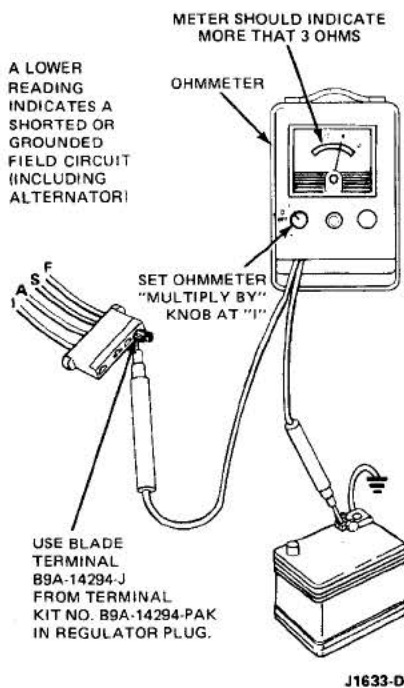

FIG. 2 Field Circuit Test
1. To determine if the jumping procedure is safe, the field circuit should be checked with the regulator wiring plug disconnected and an ohmmeter connected from the F terminal of the regulator wiring plug to the battery ground. The ohmmeter should indicate more than three ohms (Fig. 2).